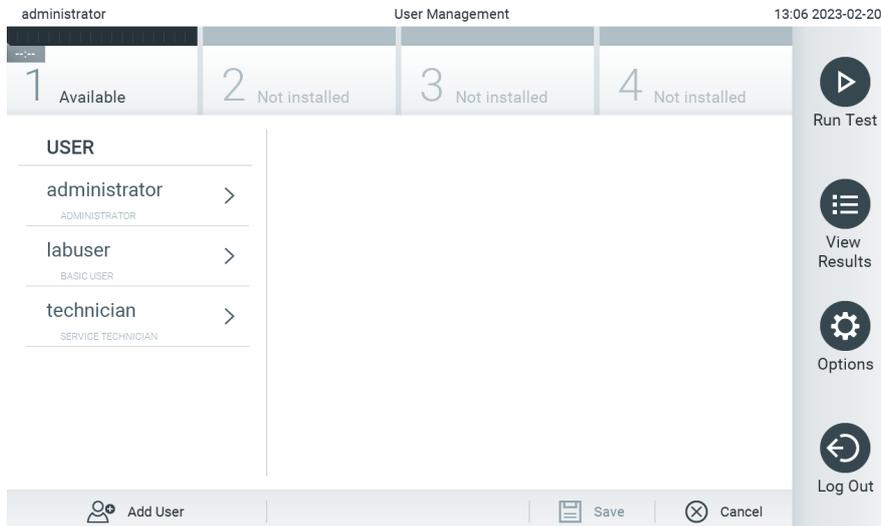

Figure 50. The User Management screen.
1. Press the **Options** button and then the **User Management** button to configure users. The **User Management** screen appears in the content area of the display (Figure 50).